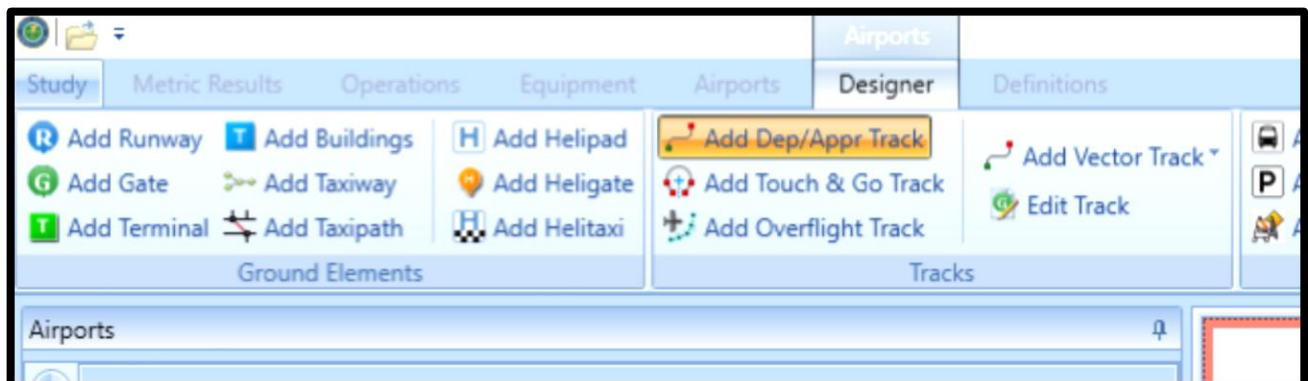

Figure 11- Add Point Track
1. Click *Add Dep/App Track* (Figure 11). A pencil icon replaces your cursor.